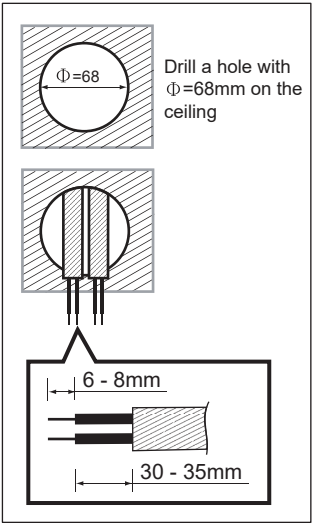

FIG.3
- 1. To install the detector, please drill a hole with diameter of 68mm on ceiling board and keep the power cable outside. Please strip off 6 - 8mm of cable sheathing for wiring (See FIG.3).